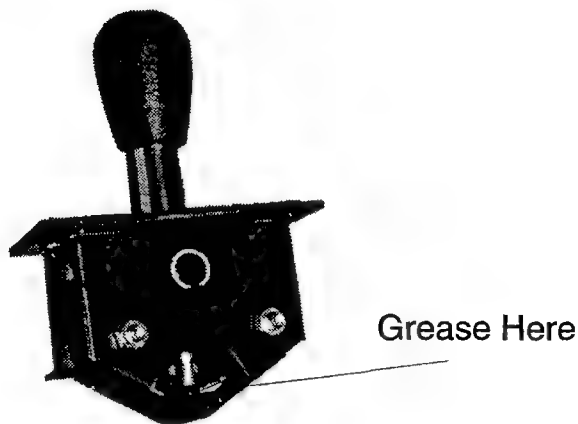

FIGURE 65: SHIFT LEVER GREASING
1. Apply lubricant to the area shown in Figure 65 once every three months.